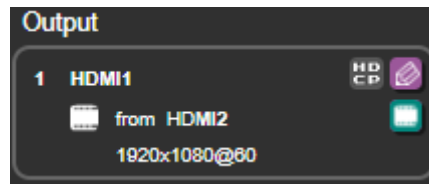

Figure 12: Switching Page – Output button
- Name (in Figure 12, the name is HDMI1).
- Input source (in Figure 12, HDMI2 is the input source for output HDMI1).
- Acceptor Resolution (in Figure 12, 1920x1080@60 is the acceptor resolution).
2. Click the Edit Output icon  from an Output button (Figure 12).
2. Click an Output button to route an input (Figure 12).